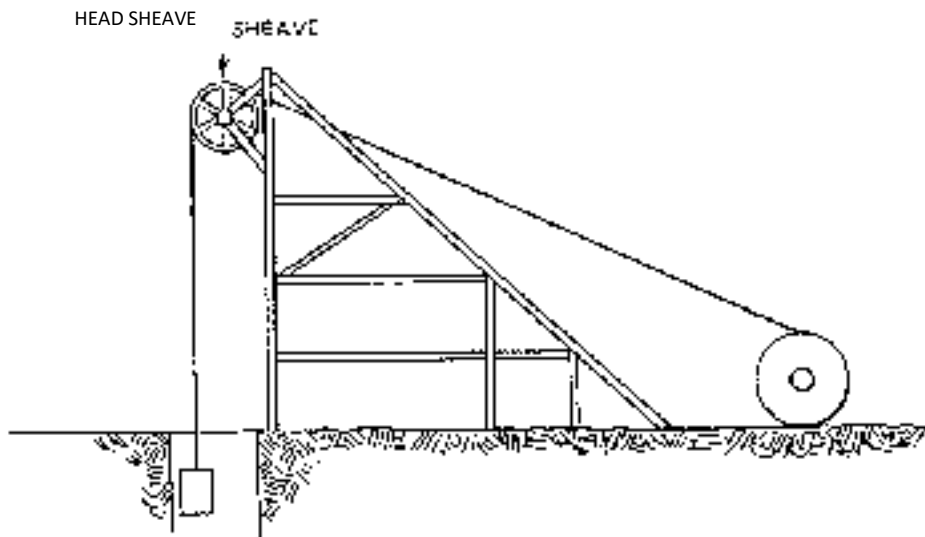

Figure 3 **Figure 3**
3. A head sheave which supports the rope and the conveyance at the head of the shaft. (See Figure 3)